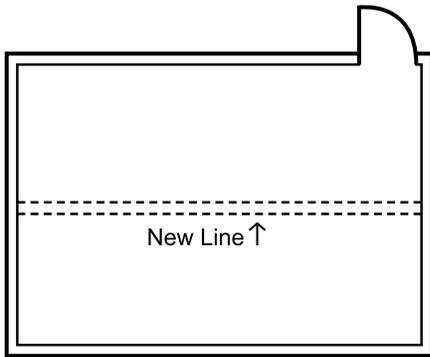

Fig. 2 - Adjust center line
- Adjust the chalk line if necessary to avoid narrow pieces at the side walls (Fig. 2).